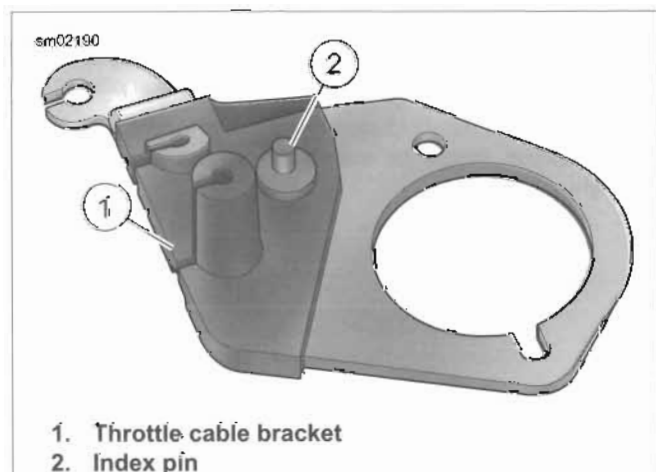

Figure 4-24. Throttle Cable Bracket
4. See Figure 4-24. Insert index pin (2) at bottom of throttle cable bracket (1) into hole in boss at top of induction module.
3. See Figure 4-24. Insert index pin (2) at bottom of throttle cable bracket into hole in boss at top of induction module.